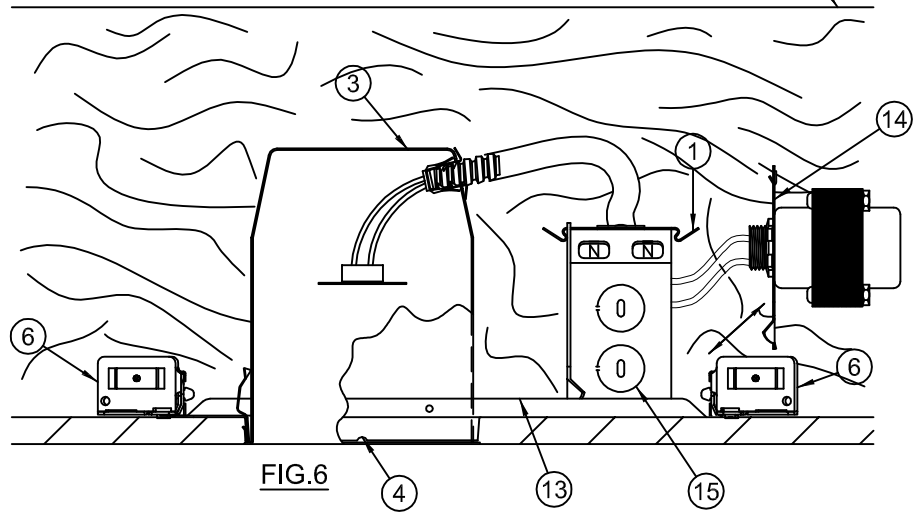

FIG.6
**D.- Carefully Remove Junction Box Cover:** (14) by lifting the leaf spring (1). Be sure not to disturb Transformer wire connections (Fig. 6).